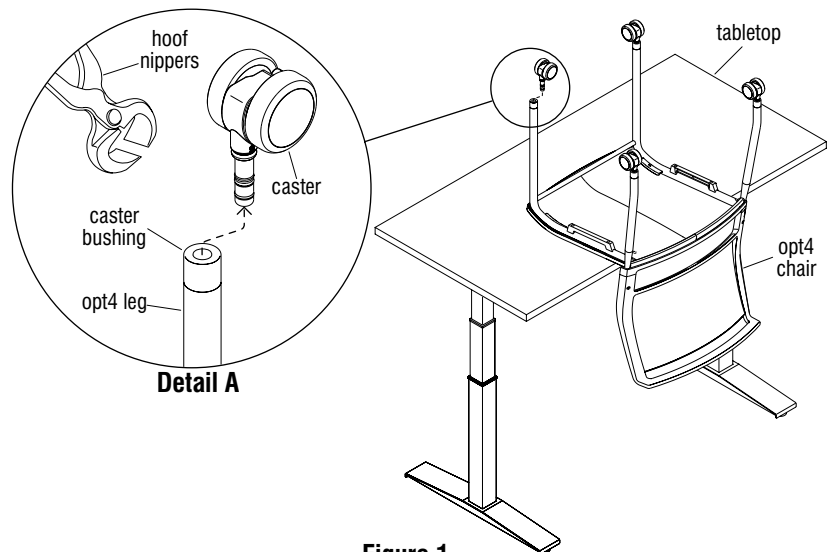

Figure 1
1. Place chair upside down onto a soft protective surface, or with the seat portion face down on a table as illustrated (Figure 1).
2. Remove the caster from the caster bushing by pulling it straight away from the leg with force. If only replacing a caster, go onto step 7, otherwise proceed to replace the caster bushing. Using a hoof nippers, cut/break the caster bushing portion off and dispose of the removed end (Figure 1 & Detail A).